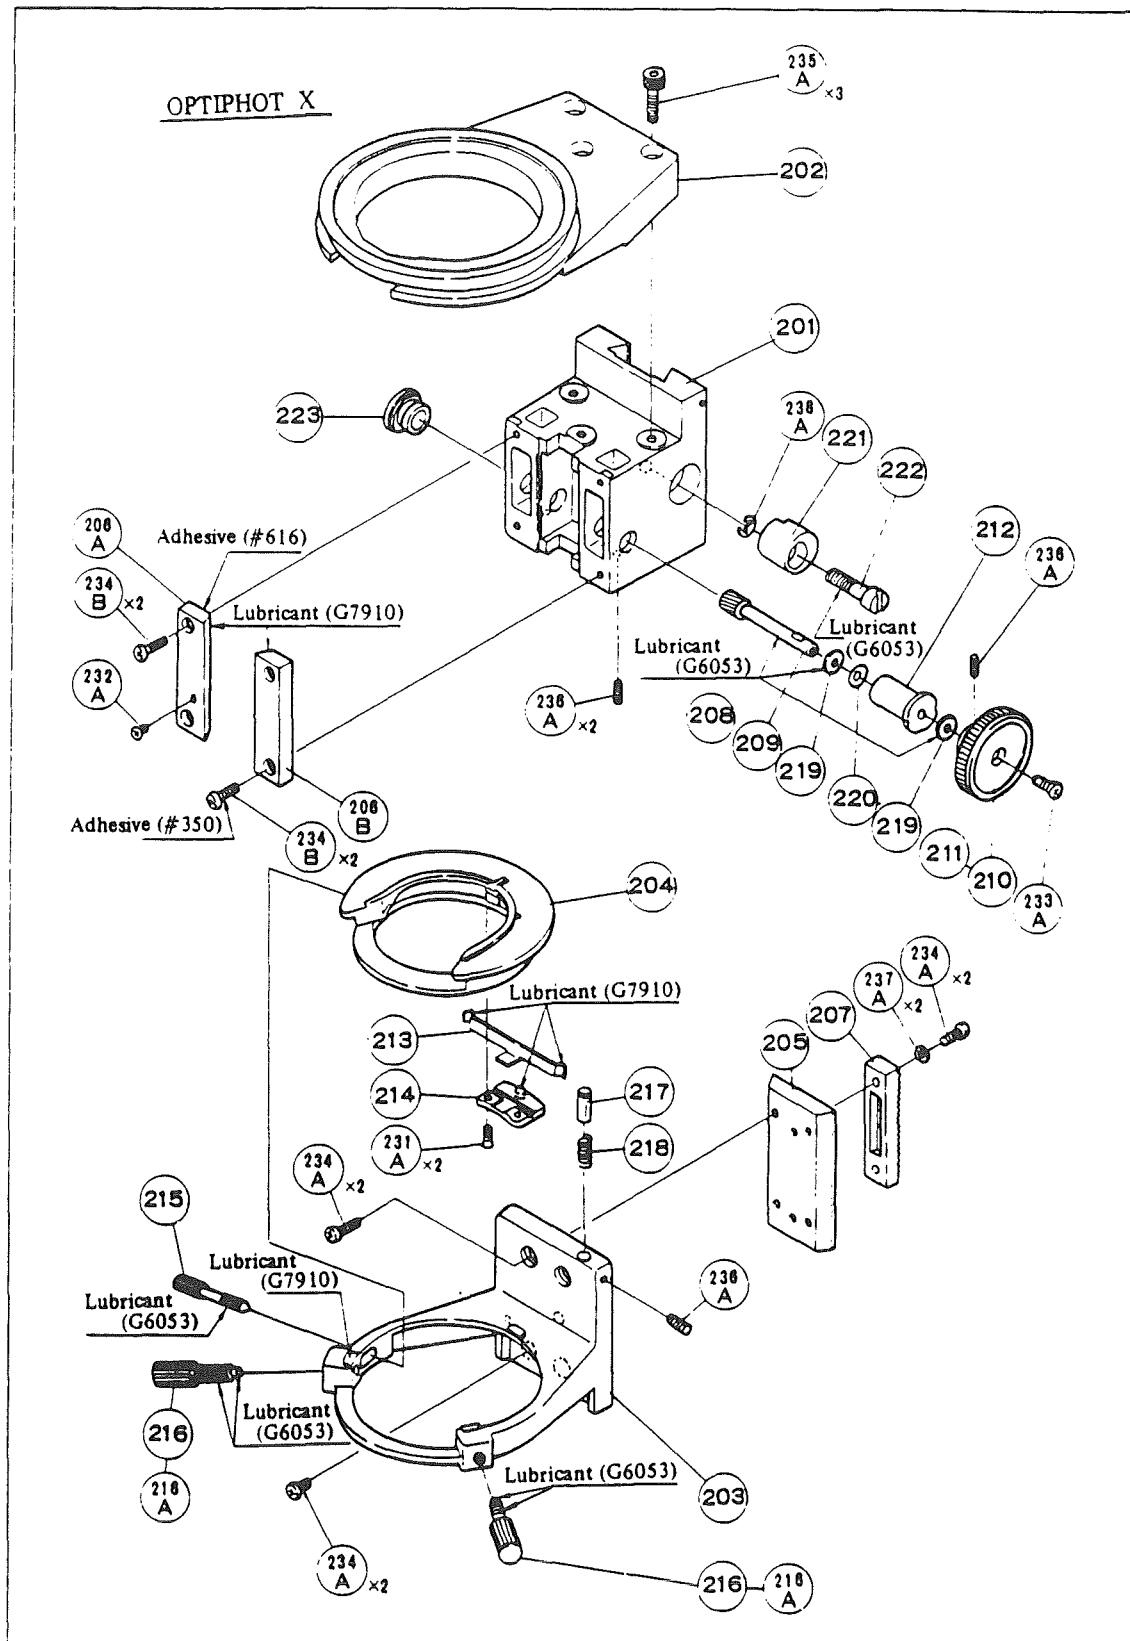

Fig. 11
2. Substage Unit (OPTIPHOT, LABOPHOT) (Fig. 11, 12)